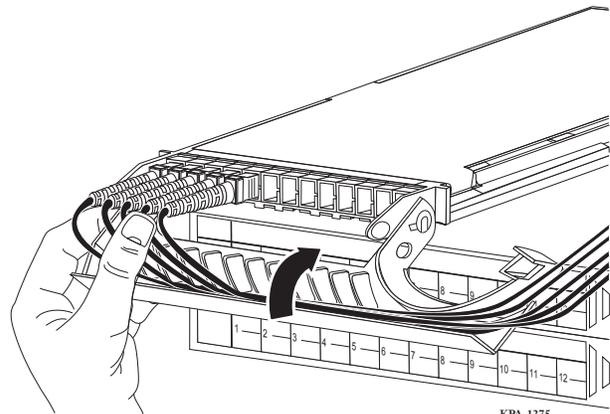

Figure 48
Step 4: Raise handle. Dress jumper cords (Figure 48) to the side of the module.
- Step 4:** Raise the handle in the source frame and push the jumpers down into the handle routing fins (Figure 48).